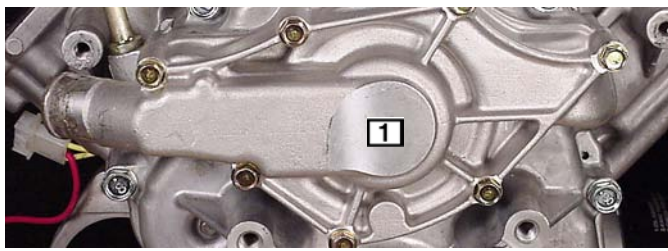

Fig. 57
1. Remove water pump cover **1**, Fig. 57.